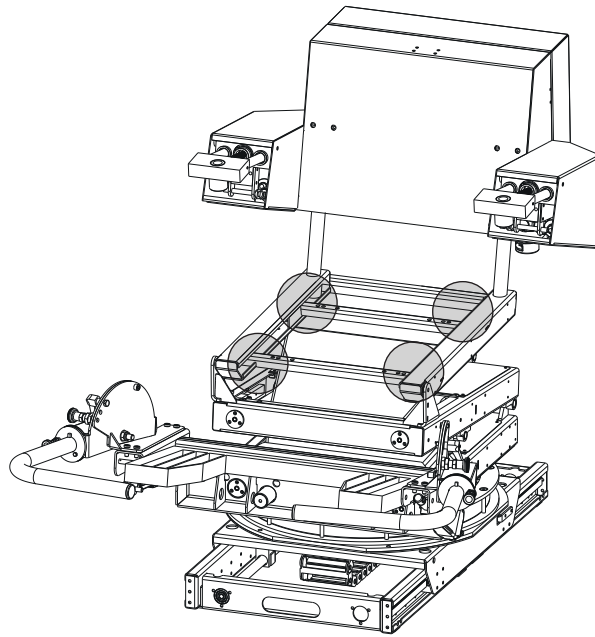

Figure 7. *Lifting points*
5. Fasten the lifting straps diagonally to at least 2 of the lifting points shown in Figure 7.